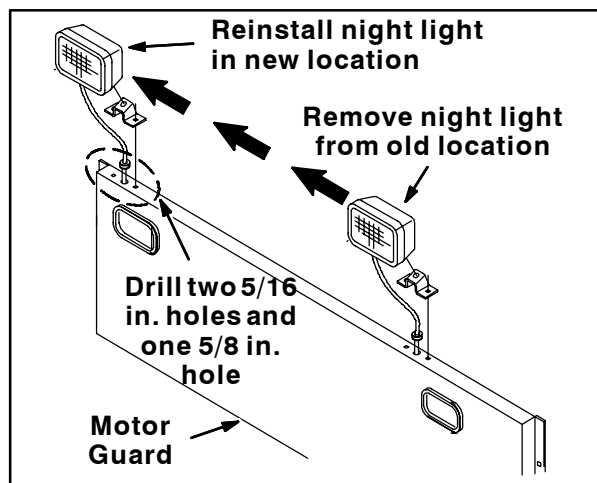
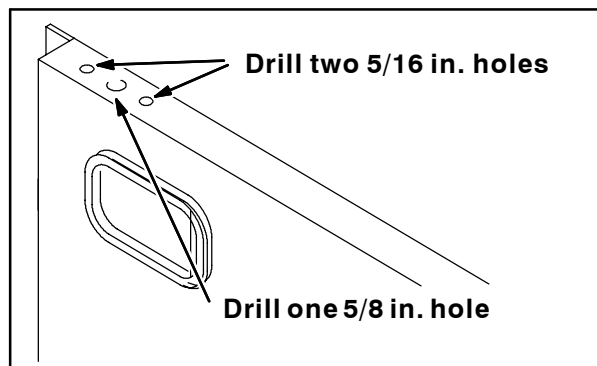

FIG. 27
FIG. 28
50. Disconnect the hopper harness from the night light and remove the night light from the motor guard. Set the light and hardware aside. Refer to Fig. 27.
51. Hold the night light bracket onto the motor guard (as a template) and drill two 5/16 in. holes through the holes in the bracket and into the motor guard. Remove the night light guard and drill a 5/8 in. hole between the two 5/16 in. holes. Refer to Fig. 27 and Fig. 28.
52. Reinstall the night light onto the new location on the motor guard. Route the night light cable through the center hole drilled into the motor guard. Refer to Fig. 27 and Fig. 28.